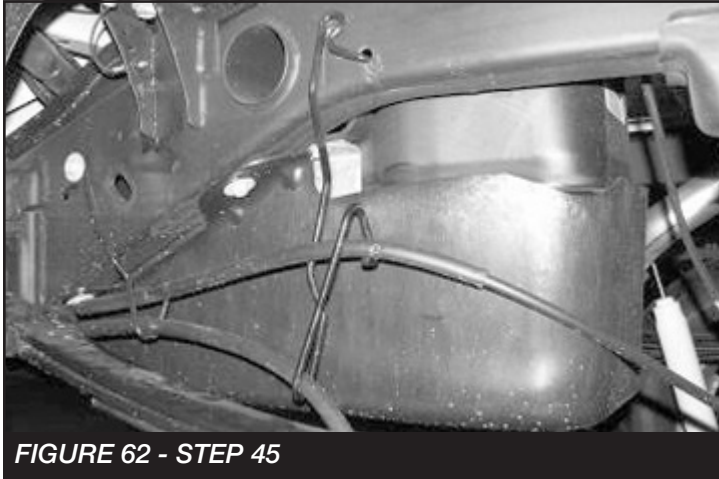

FIGURE 62 - STEP 45
45. Jack up the rear end of the vehicle and support the frame rails with jack stands. Supporting the rear differential, remove and discard the rear shocks, u bolts and blocks. Disconnect the brake line bracket at the differential and save the hardware. Remove the ABS line clip from the top of the frame and at the axle. Remove the e-brake cable bracket on the driver's side of the frame and save the hardware. Lower axle down slowly. Use care not to over extend the brake hose. **SEE FIGURE 62**